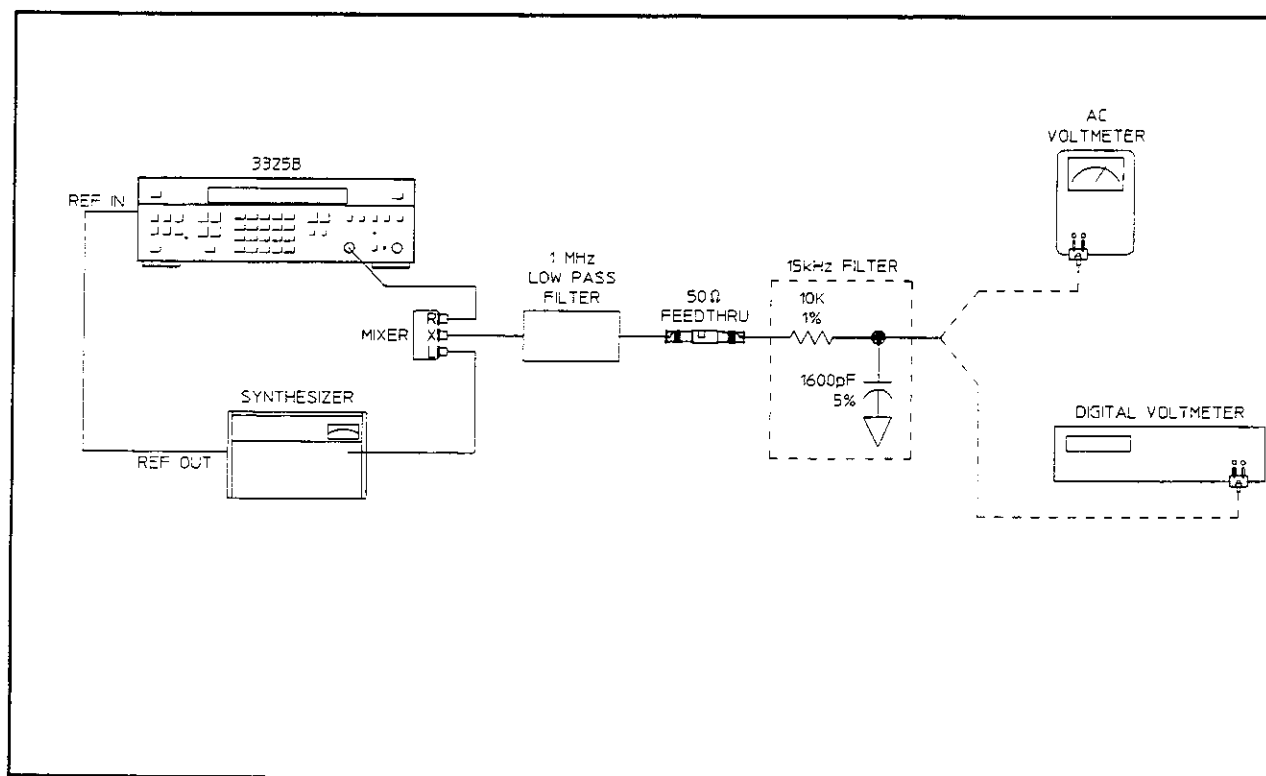

Figure 4-8. Integrated Phase Noise.
- Capacitor: 1600 pF  $\pm$  5% (see figure 4-8)
- a. Connect the equipment as shown in figure 4-8, connecting the 15 kHz noise equivalent filter output to the ac voltmeter. Phase lock the HP 3325B and the signal generator together.